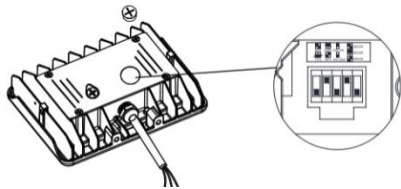

Figure 1
- 3: Remove clear knockout from back of fixture to gain access to dip switches. Dip switches are used to change wattage, color temperature, and to enable/disable photocell. (Figure 1)